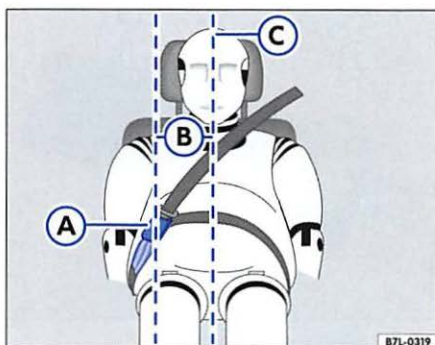

Fig. 18 Measurements
- Ⓐ Front edge of buckle ⇒ fig. 18
- Ⓑ Distance of buckle and body centerline, (less than 6 inches (15 cm) ⇒ fig. 18
- Ⓒ Body centerline ⇒ fig. 18